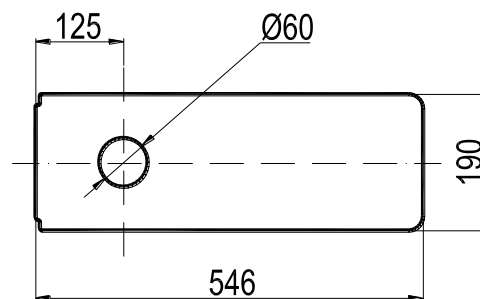

Figure 4.1
- 4.2** The machine should be mounted on a firm bench or table in a clean area, free from vibration or shock, recommended height 800mm. A hole must be provided in the top of the bench to provide working clearance for the leadscrew refering figure 4.1.